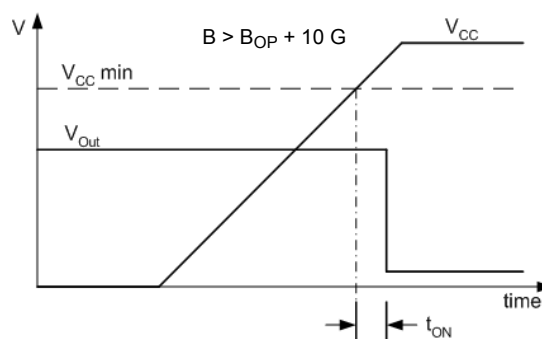

Figure 2
**Power-on Time** This characteristic,  $t_{ON}$ , is the elapsed time from when the supply voltage reaches the device supply minimum until the device output becomes valid (see figure 2).